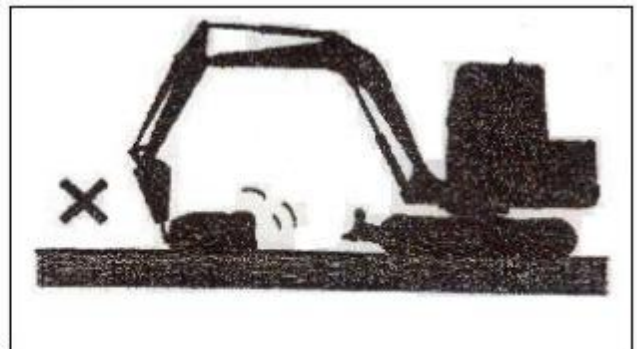

Fig 3-63
10. Do not use the crusher or bucket to move the crushed object, especially avoid using the rotation force to move it, otherwise the boom, arm, rotation mechanism and crusher will be damaged. See Figure 3-63